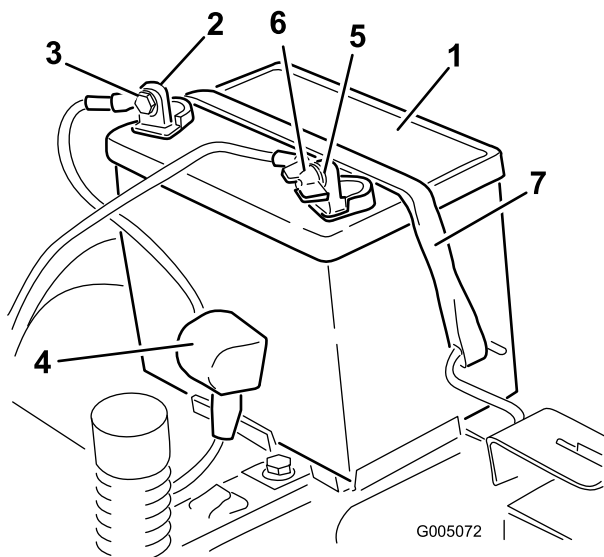

Figure 35
4. Disconnect the negative (black) ground cable from the battery post (Figure 35).
6. Disconnect the positive (red) cable from the battery post (Figure 35).
7. Remove the battery hold-down (Figure 35), and lift the battery from the battery tray.
1. Position the battery in the tray (Figure 35).
5. Secure the battery with the hold-down (Figure 35).